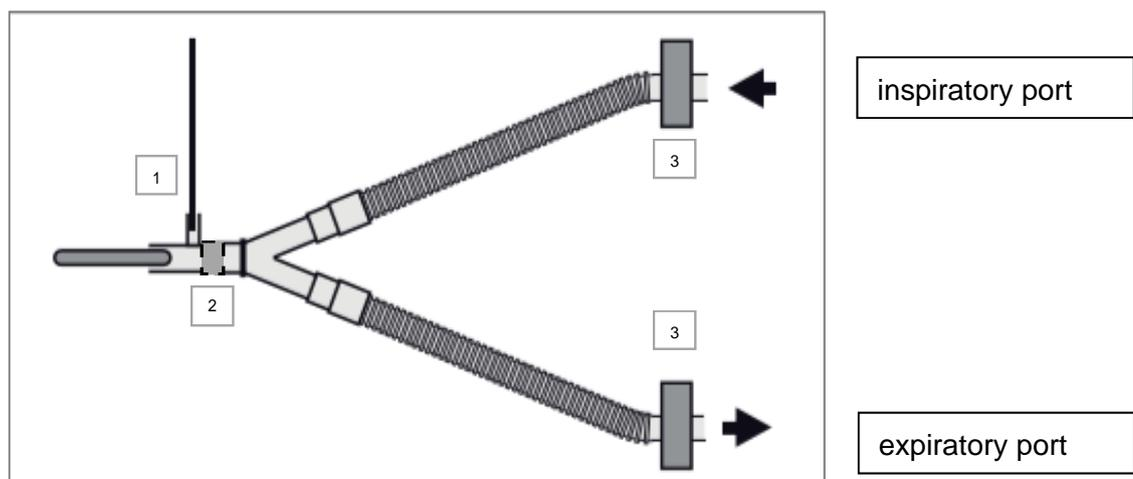

Figure 3: System setup recommendation for neonatal patients (tidal volume approx. < 30 ml)
- For neonatal patients, it is frequently necessary to sample breathing gas for the monitoring of CO₂, O₂, N₂O and anesthetic agents from the patient side of an HME (see position 1/ figure 3). Otherwise the quality of the measured gas parameters might not be sufficient.
- Use a HME at the Y-piece for sufficient humidification of the airways. e.g. Dräger HumidStar 2 (MP01745) for tidal volumes above 10ml (see position 2/ figure 3).
- Use mechanical BSFs such as SafeStar 55 (MP01790) at each the expiratory and the inspiratory port of the anesthesia machine (see position 3/ figure 3).